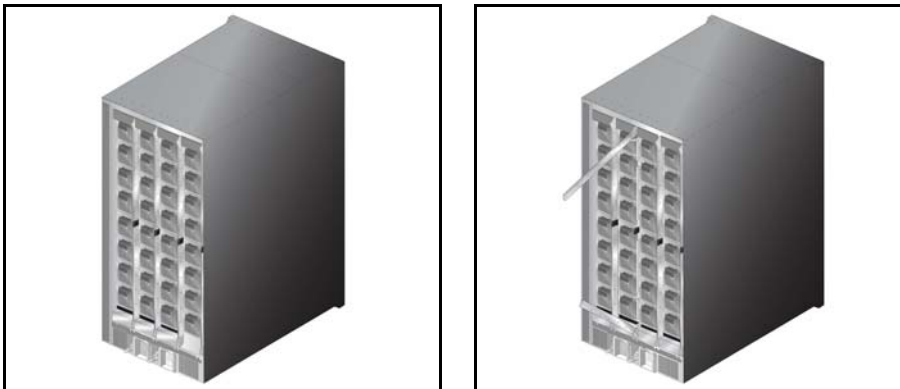

Figure 24: Fabric Module Removal: Initial Position and Opening the Lock-Levers
Step 1 Press the release button on the module to be removed to release the lock-levers from the module frame. Figure 24-left displays the switch prior to pressing the release button.
Step 2 Extend the lock-levers towards the top and bottom of the chassis, as shown in Figure 24-right.
- Step 4** Continue inserting the module into the chassis. If other fabric modules are in the chassis, the module being installed should be in the same relative position (Figure 24-right).
- Return the lock-levers to the closed position, securing the module to the chassis (Figure 24-left).